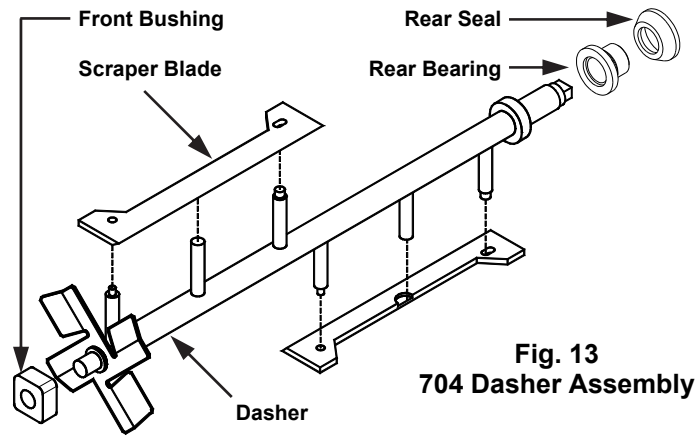

Fig. 13
- c. (704 Only, Fig. 13) Remove the blades from the dasher by pulling scraper blades from support pins.